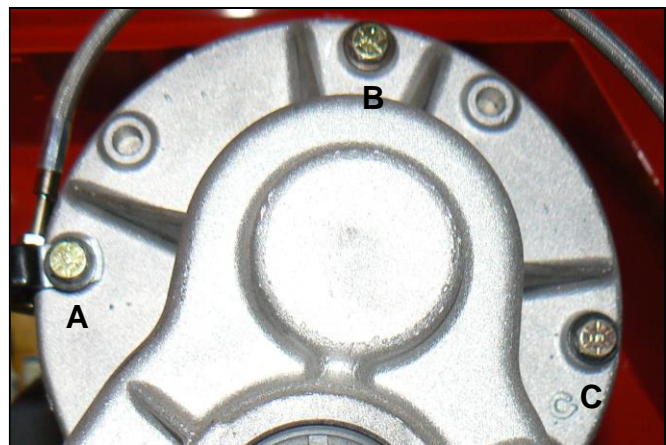

Figure 10-18
2. Rotate motor to align mounting bolt holes to axle/differential housing. Install 3 bolts securing motor to rear axle/differential housing, while carefully supporting motor to prevent it from falling. Loosely tighten screws A and B, then loosely tighten screw C to draw face of motor up to flange on axle evenly (Figure 10-18). Torque screws A and B to 100 in. lbs. (11.3 Nm) Then tighten screw C to 100 in. lbs. (11.3 Nm).